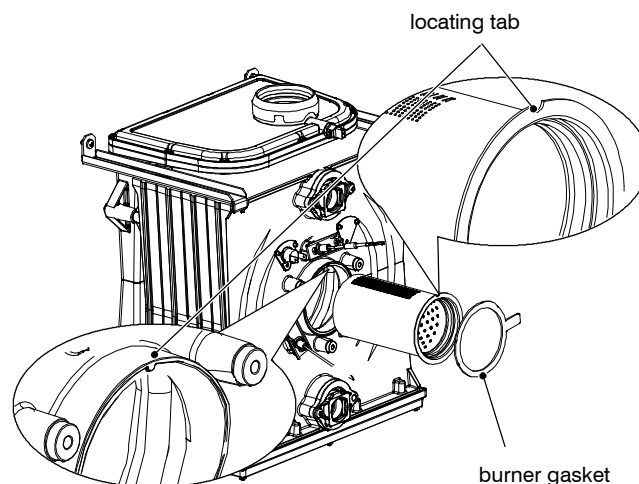

Fig. 11.3
- 4 Assemble the burner carrying out the removal operation in reverse order. Ensure the burner is correctly located by lining up the locating tab (Fig. 11.3).